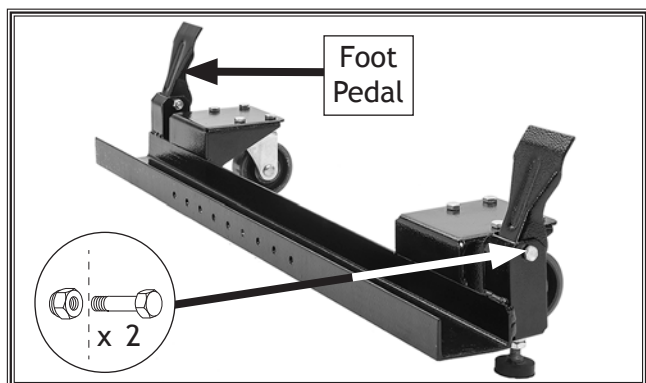

Figure 7. Pedals attached to support brackets.
7. Attach foot pedal to each side of support bracket using (1) M8-1.25 x 50 shoulder screw and (1) M8-1.25 lock nut (see Figure 7).